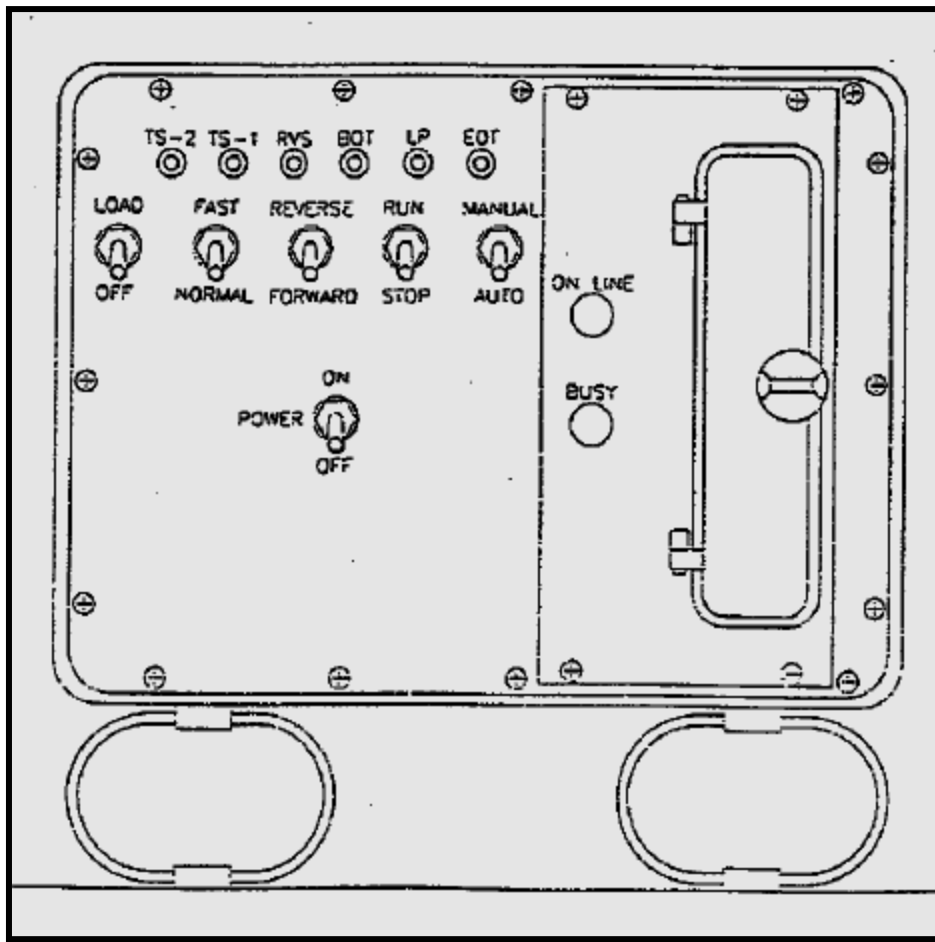

Figure 6-50.—Recorder-Reproducer Unit, RD-473/STC-2(V).
The RRU (figure 6-50) is used to load Main Traffic Programs, subscriber equipment tables, on-line maintenance routines, and processor Test and Maintenance (TM) routines. The RRU uses a 3M-DC300A-type tape cartridge (or equivalent) with a capacity of 23 megabits. Read speed is 30 inches-per-second (ips) and high-speed rewind speed is 90 ips in both FWD and REV directions. Data transfer rate is 6K-bytes (1 byte =8 bits) per second parallel. Connectors are provided on RRU to accept power, input/output data, and control signals from the CSC. The RRU is operated either manually from front panel controls or automatically under control of signals generated by STG-2 Control subassembly.